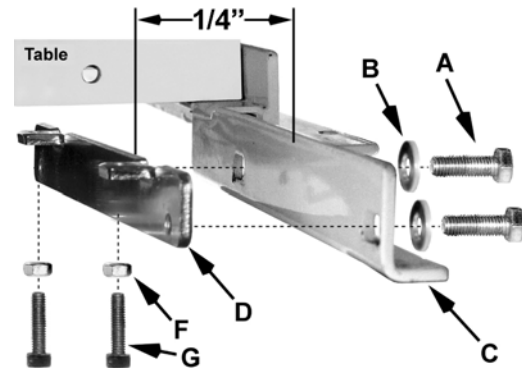
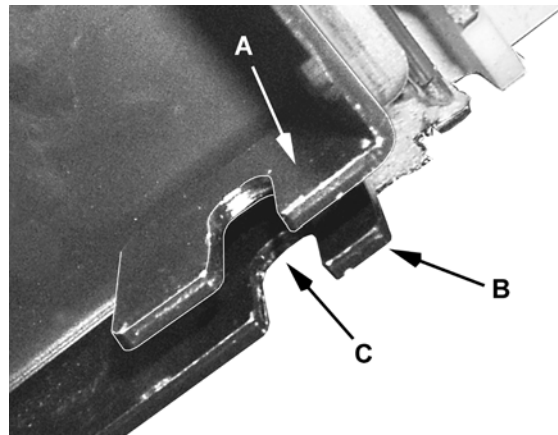

Figure 8
Figure 10
Referring to Figure 8:
The procedure for installing the *leveling brackets* is the same for front rail and back rail. The illustration (Figure 8) shows the front rail.
5. Ensure that there is approximately a 1/4" gap between *rails* and the *brackets* (C & D, Fig. 8) so that you can set the sliding table in position.
The support plate underneath the sliding table (Figure 10) has an *inner tab* (A) and an *outer tab* (B). When placing the table onto the *leveling bracket* (D, Fig. 8), the leveling bracket must be positioned *between* the inner and outer tabs and the *slots* in the tabs (C, Fig. 10) must straddle the screws (A, Fig. 8) that secure the leveling bracket (D, Fig. 8) to the rail (C, Fig. 8).
7. The sliding table should rest on the jacking screws (G, Fig. 8).
9. Lower, or raise *jacking screws* (G, Fig. 8) so that the sliding table surface is approximately flush, or slightly lower than table saw table surface.
12. Use two jacking screws (G, Fig. 8) to raise the sliding table until it contacts the straight edge. The straight edge should rest flat on sliding table and shims.
14. Tighten *hex nuts* (F, Fig. 8) against the leveling bracket tabs while keeping *jacking screws* (G, Fig. 8) from turning.
16. Verify that the jack screws (G, Fig. 8) contact the sliding table support plate (Fig. 12).